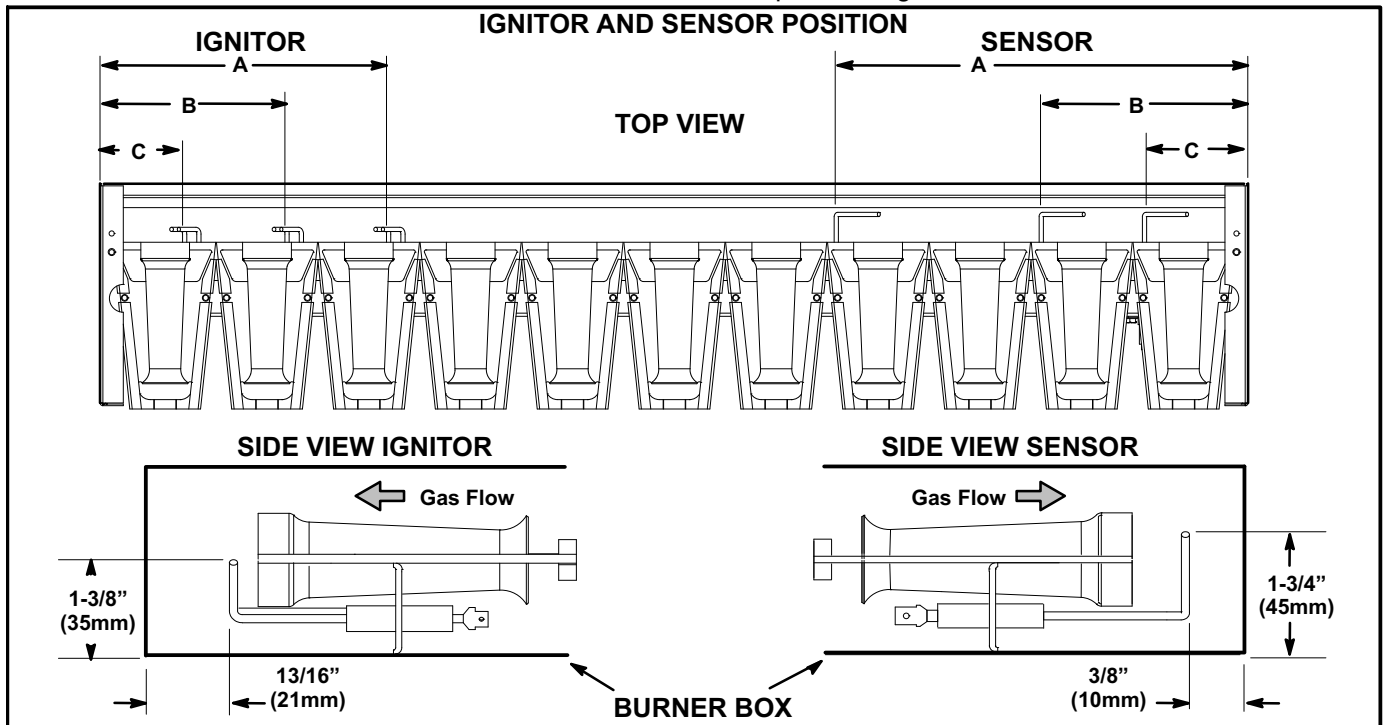

FIGURE 41
- 5- Check the alignment of the ignitor and the sensor as shown in figure 41 and table 35.